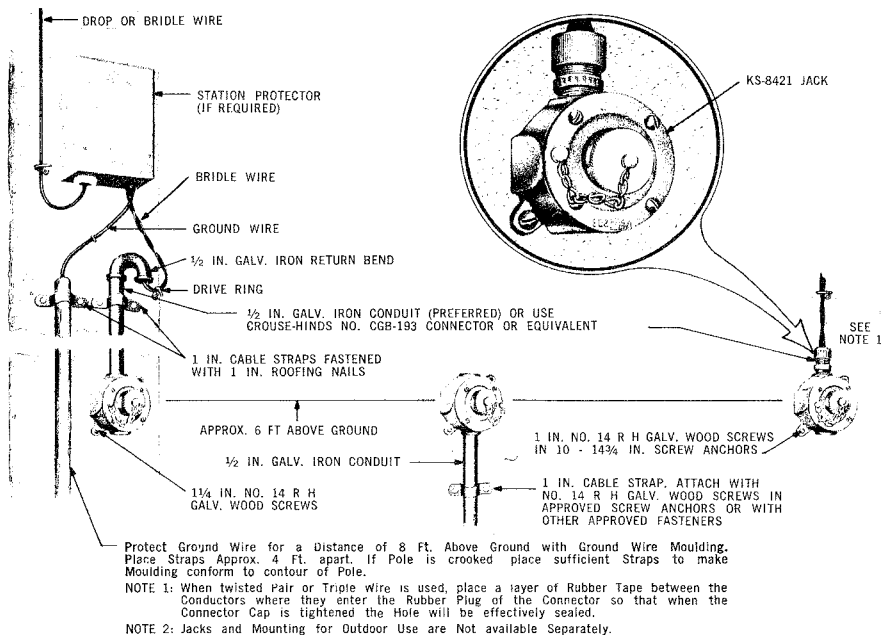

Fig. 18 — Typical Installation of KS-8421 Jack
- 6.06** Install the KS-8421 jack (Fig. 18) as follows:
1. Mount jack as shown in Fig. 18. Connect wire to jack.